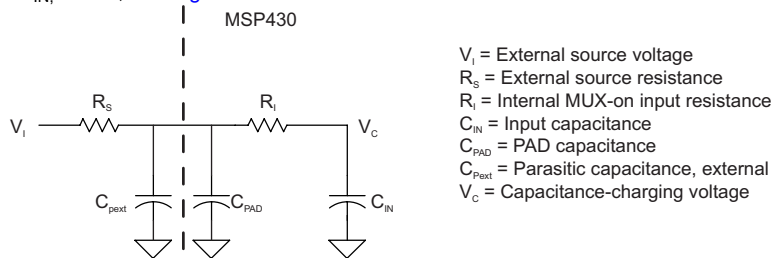

Figure 5-16. eCOMP Input Circuit
(1) For details on the eCOMP C_{IN} , model, see Figure 5-16.
(1) For details on the eCOMP C_{IN}, model, see Figure 5-16.